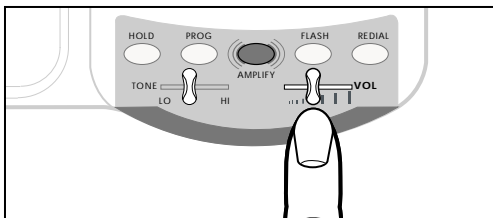

Figure 9 - Volume Slide Control
2. Adjust the volume in the handset by moving the **VOL** slide control in Figure 9. With **AMPLIFY** on, incoming volume will be up to 26 dB louder.